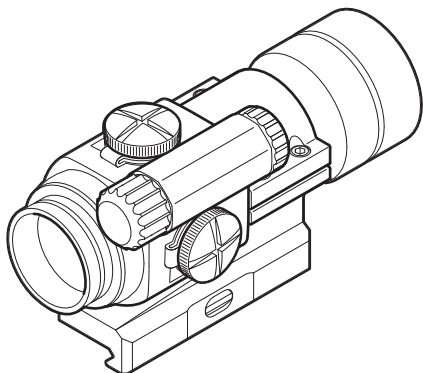
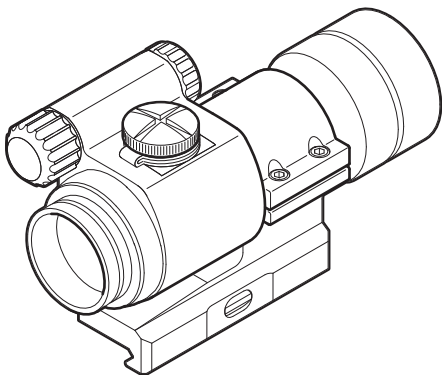

Fig. 6  2.2
Fig. 7  2.2
- Ensure that the sight is correctly positioned for right-handed (Fig. 6) or left-
handed shooters (Fig. 7). To mount the rubber cover (11) on the CompM3 and CompML3, you must position the sight as shown in Fig. 6.
The elevation adjustment screw is located on top of the sight, while the windage screw is located on the right or left side, depending on how the sight has been mounted on the weapon. Aimpoint sights can be installed to support either right-handed (Fig. 6) or left-handed (Fig.7) shooters. To mount the rubber cover (11) on the CompM3 and CompML3, you must position the sight as shown in Fig. 6.
- a Open front and rear lens cover (10) and (9).
- b Turn the rotary switch (4) clockwise until the red dot has a sufficient intensity to contrast against the target.
- c Remove the windage and elevation adjustment caps (5).